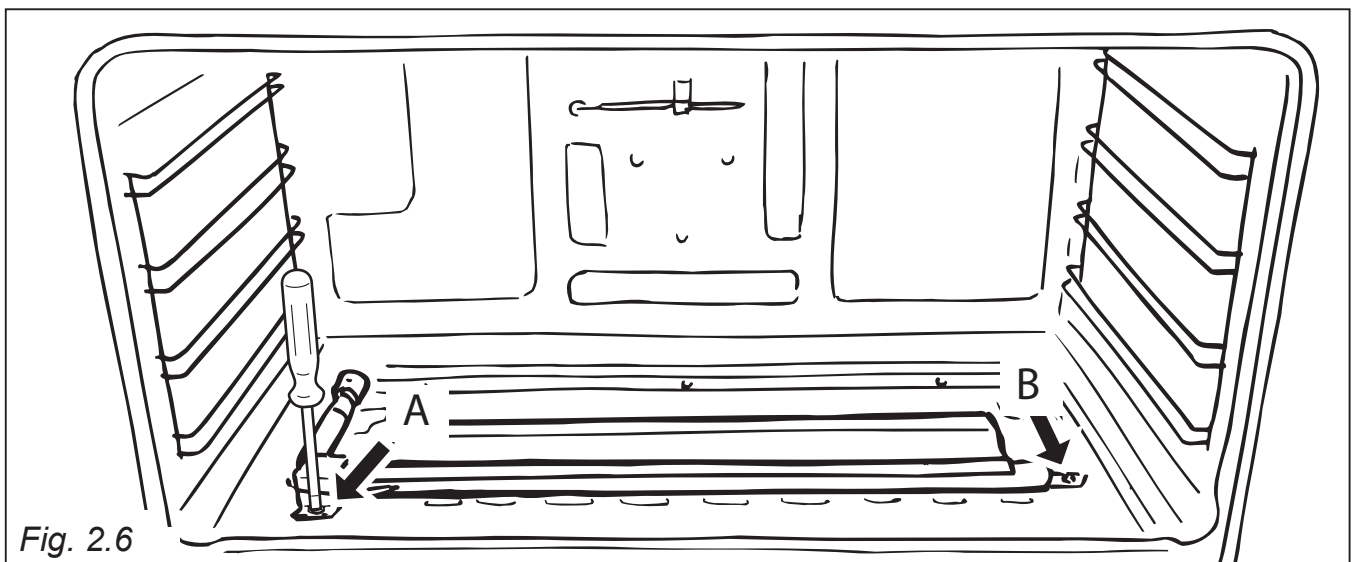

Fig. 2.6
- Unscrew and remove the burner securing screw “A” (fig. 2.6).
- Slacken screw “B” (fig. 2.6).